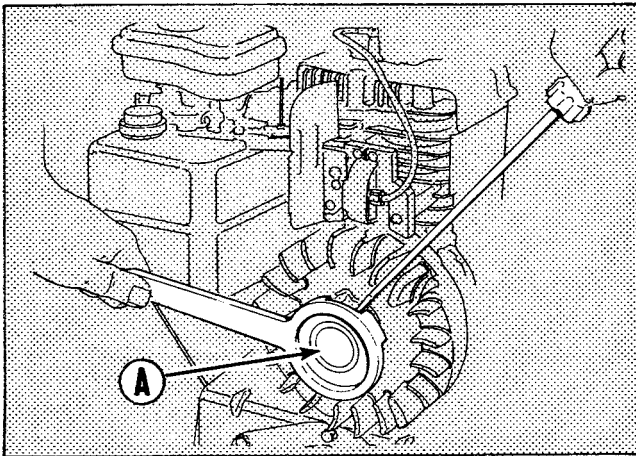

FIGURE 2
4. Remove the special flywheel retainer (A) (see figure 2). This is done by holding the flywheel in a stationary position and turning the retainer counterclockwise. A special Briggs & Stratton tool is used for this purpose, however, a pipe wrench can be substituted